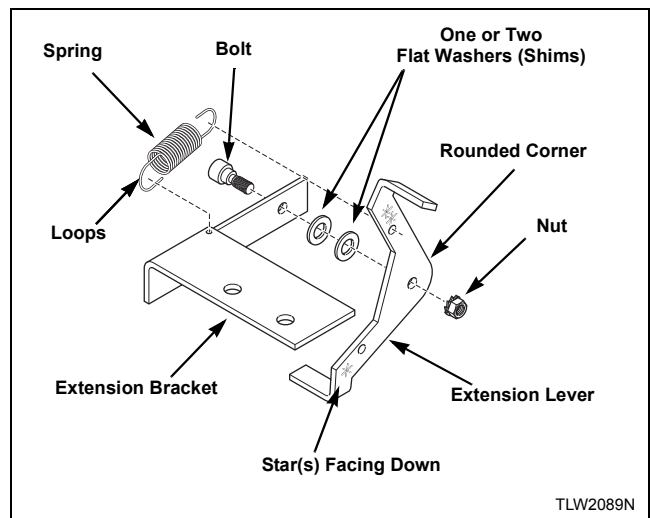

Figure 14
4. Install extension lever with rounded corner facing away from extension bracket using bolt, one or two flat washers (shims) (use number of washers included in kit) and nut. Refer to *Figure 14*. Make sure washers are flat against bracket.
6. Install extension spring in bracket hole and hole in upper arm of lever. Refer to *Figure 14*.